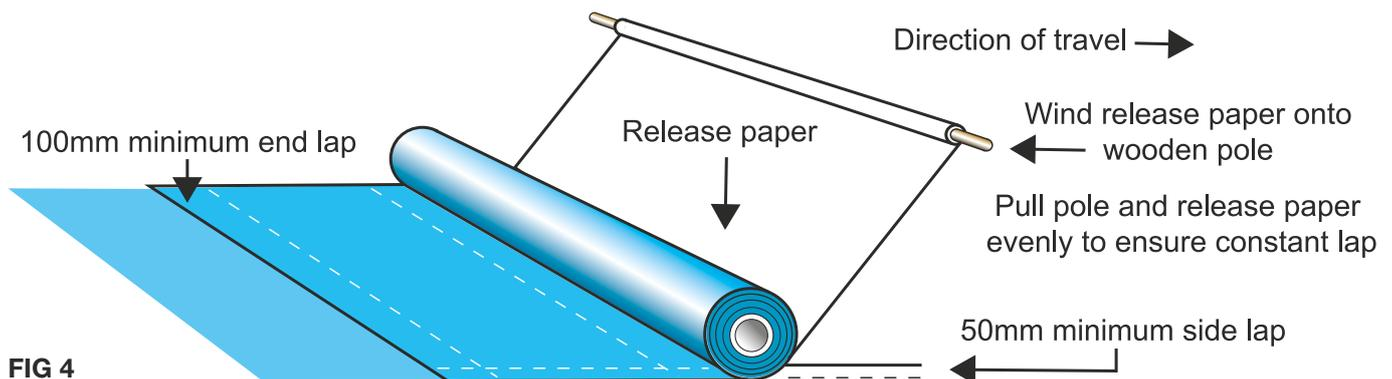

FIG 4
6. Take up the release paper, preferably winding this onto a wooden rod, until it is at a comfortable angle for the first applicator (See Fig 4).